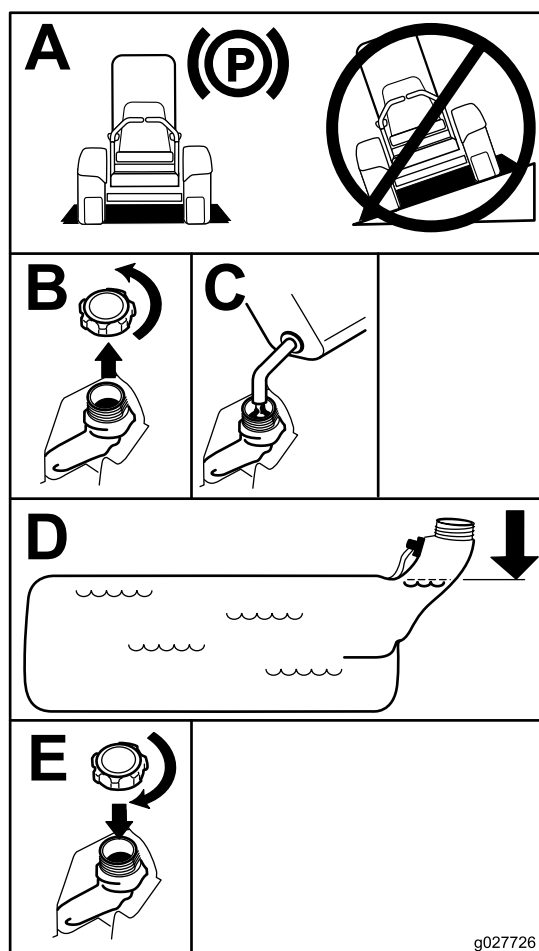

Figure 6
4. Fill the fuel tank to the bottom of the filler neck (Figure 6).